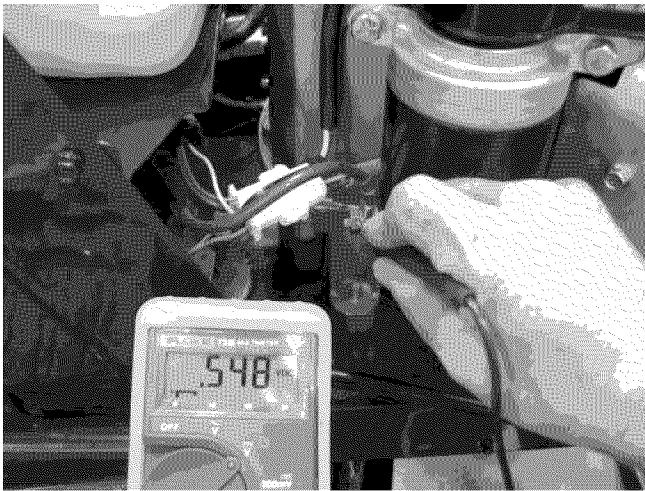

Figure 7.51
- As an example, if the tractor had a slow-turning starter, the ground-side voltage drop measured below 0.1 volts, and there was not a parasitic load on the engine (e.g. PTO clutch that is not fully disengaged), it would be logical for the technician to check voltage drop to the starter. See Figure 7.51.